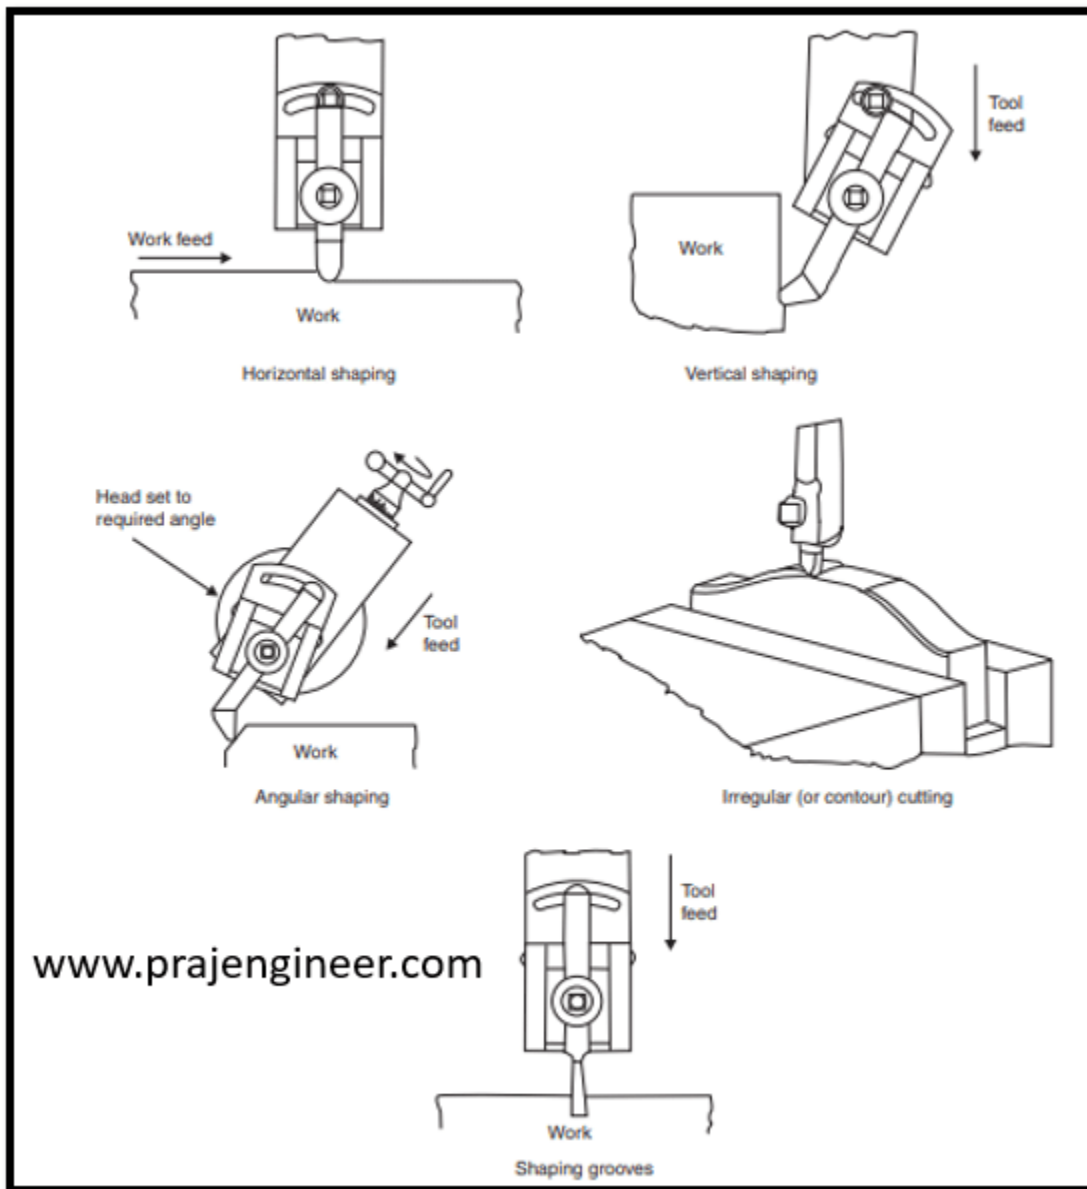

Fig. 4 Operations performed on shaping machine
- The stroke can be reduced or increased by altering the length of the crank AB (refer to Fig. 4).
- Operations performed on a shaper can be easily understood from Fig.4.